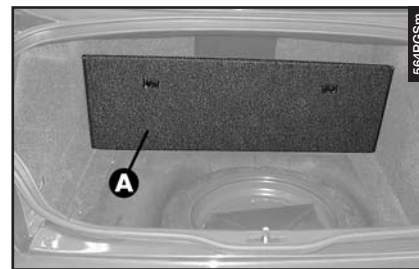

fig. 1
- Fold forward the boot mat (**A-fig. 1**).
— Fold back the boot mat (**A-fig. 1**).